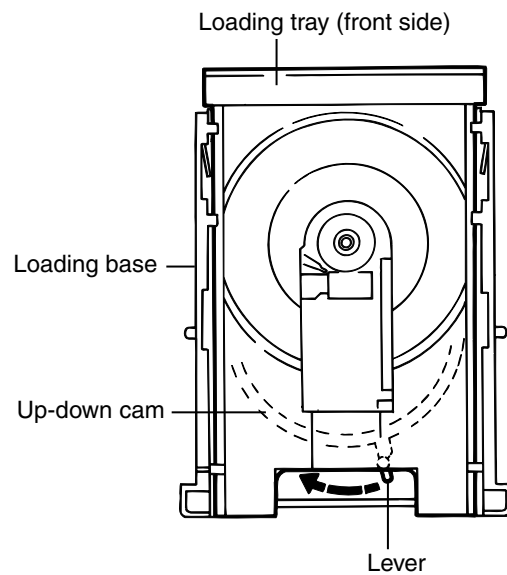

Figure 2
■ Removing the loading tray (refer to Figures 2 - 4)
1. Turn the up-down cam lever clockwise (in the direction of the arrow in Figure 2) to lower the position of the mechanism.